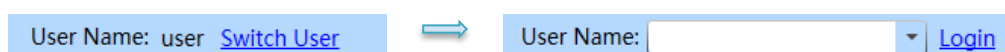

Figure D-2.1a. Quick Start Bar - Login
- Login: user can click < **Switch User** > and enter the registered account name in the input box; or select a registered account name in the drop-down menu, and then click < **Login** > to log in as the current user account, as shown in figure D-2.1a.